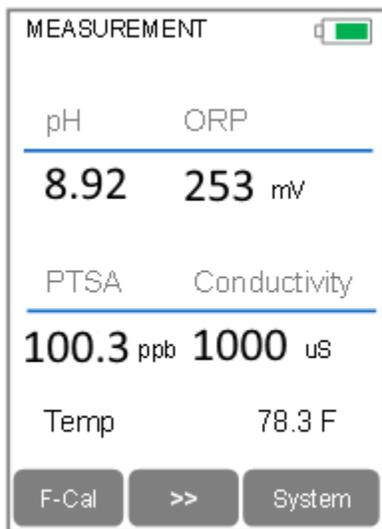

Figure 20
- 3) A screen similar to Figure 20, the basic Measurement (read) screen, appears.
- 10) Or, press Exit (> key) to abandon calibration, and return to the basic read mode (Figure 20). No calibration will be done.
- 13) After successful calibration, **press and hold the Calib key for 3 seconds** to return to the basic read screen (Figure 20). Return is not automatic, except through a power-off cycle. Do not do so before the second checkmark and the message appear, or the calibration will not complete.